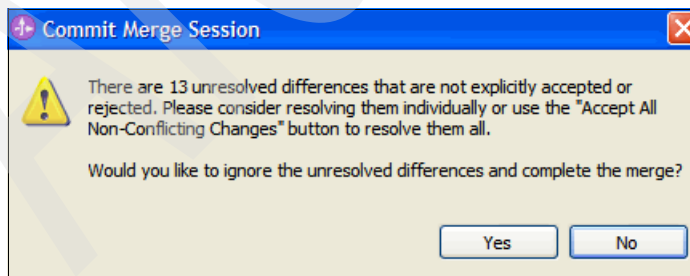

Figure 6-104 Commit Merge Session
6. When prompted by the Commit Merge Session window (Figure 6-104) to ignore the unresolved differences and complete the merge, click **Yes**.